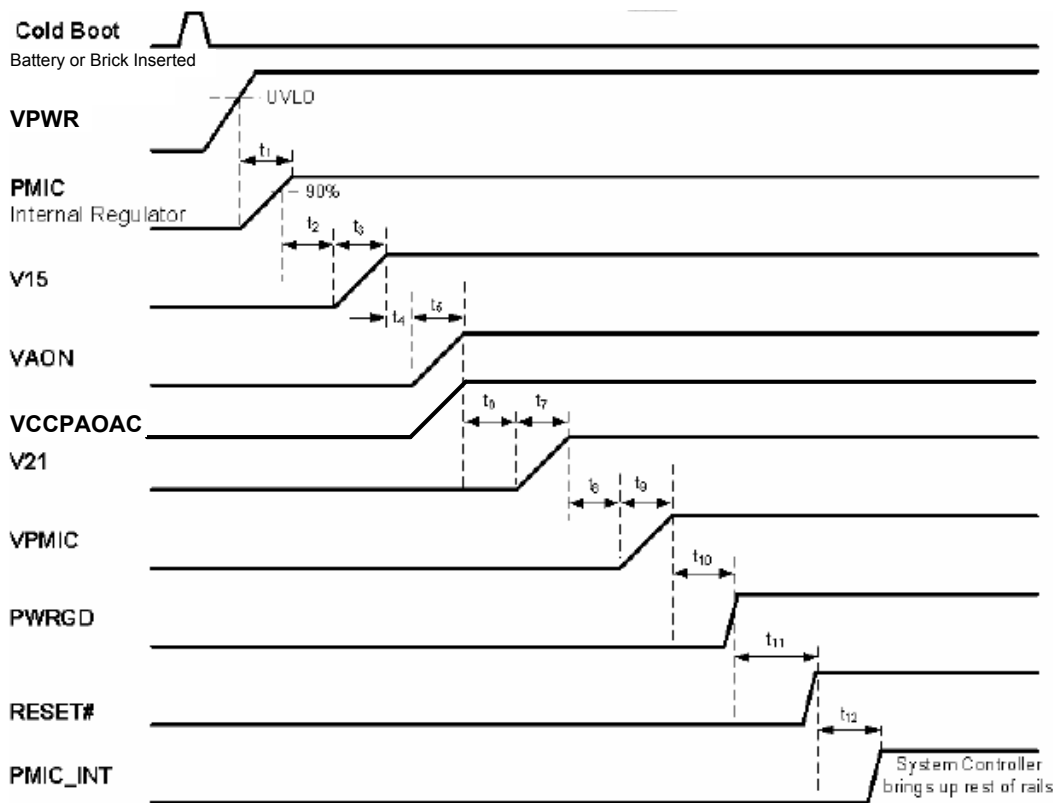

Figure 19. 900841 Initial Power Up Sequence
4. The 900841 turns on a minimal set of voltage rails as outlined in Figure 19